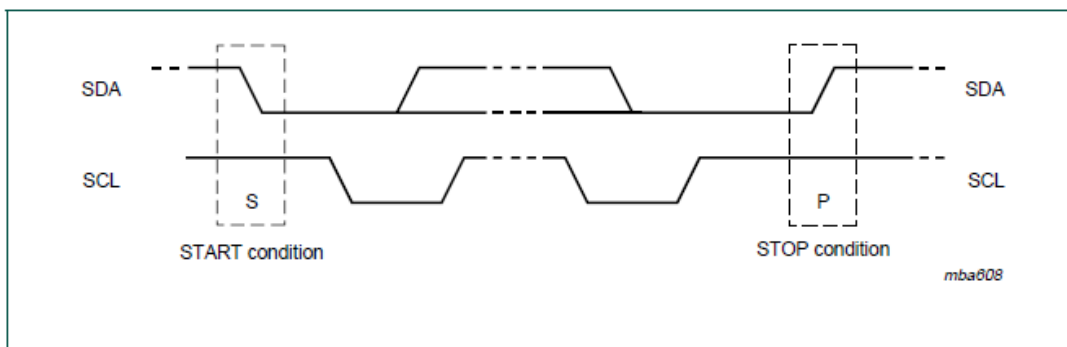

Figure 2, Start & Stop Conditions
All transactions begin with a START (S) and can be terminated by a STOP (P). A HIGH to LOW transition on the SDA line while SCL is HIGH defines a START condition. A LOW to HIGH transition on the SDA line while SCL is HIGH defines a STOP condition. (Figure 2)